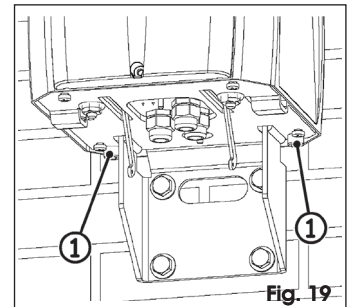

Fig. 19
7. Secure the motor body with the two rear screws (Fig. 19 ref. ①).